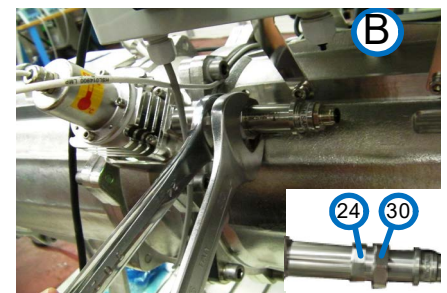

Figure 10-34: Loosening nuts B (Generic View)
- Step 2.** Grip the Sensor casing with wrenches **# 24** and **# 30**, as shown in view **B**, **Figure 10-34**. The inset shows the wrench **#24** in the left hand gripping the casing's left band and wrench **#30** in the right hand gripping the casing's large nut on the right.